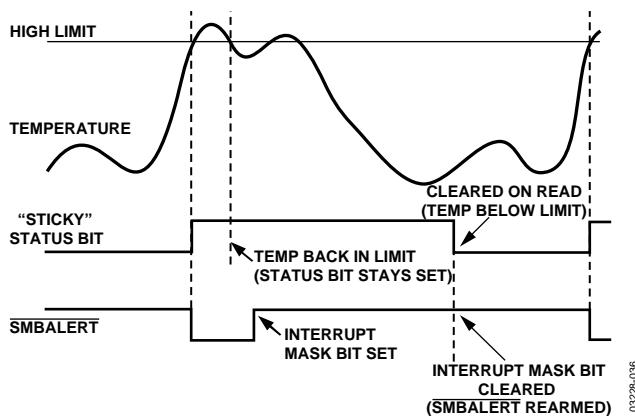

Figure 36. How Masking the Interrupt Source Affects SMBALERT Output
7. Periodically poll the status registers. If the interrupt status bit has cleared, reset the corresponding interrupt mask bit to 0. This causes the SMBALERT output and status bits to behave as shown in Figure 36.